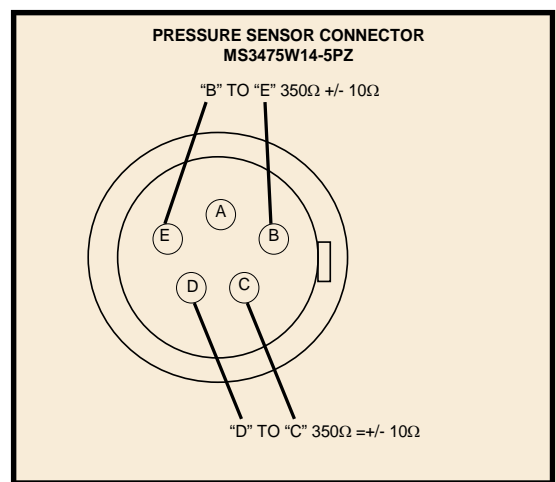

FIGURE 4.21 PRESSURE CONNECTOR
2. With the Digital Multimeter (DMM) set to the Ohms range, measure the resistance between pins "C" and "D" of connector MS3475W14-5PZ (see Figure 4.21). *The resistance should be $350 \Omega \pm 1 \Omega$.*